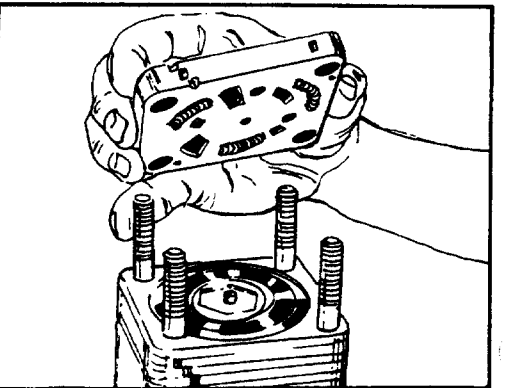

FIGURE 86.
- 37. Apply a few drops of oil to the valve plate (13). Align the grooves on the side of the port manifold (8) with the grooves on the side of the isolation manifold (15) and assemble the port manifold with the springs toward the valve plate (13). Be careful not to pinch a spring during installation. The two alignment pins (11), in the valve plate, will engage the holes in the port manifold. The pin on the hex drive assembly (10) must engage the center hole in the port manifold. See figure 86.